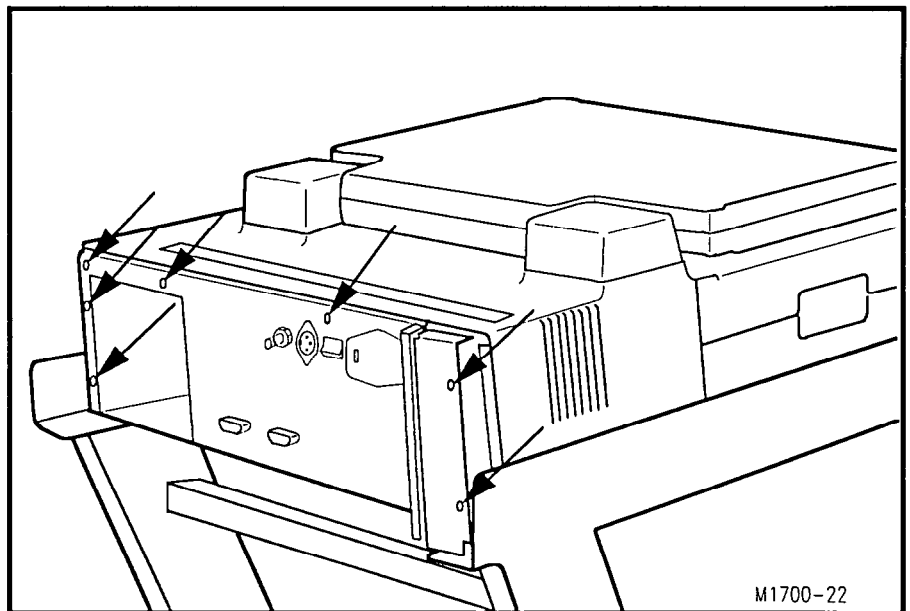

Figure 7-14. Opening and Removing the Top Cover Assembly.
4. Remove the seven screws from the rear panel as shown in Figure 7-14.